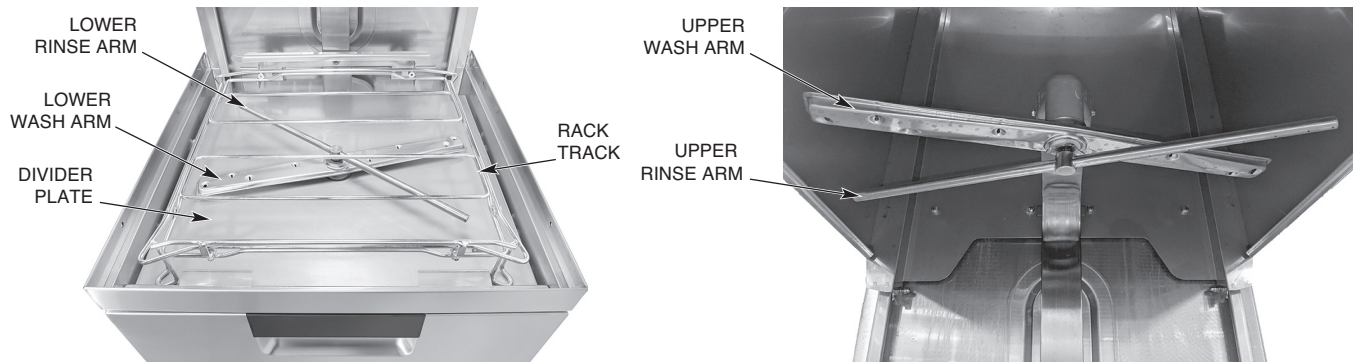
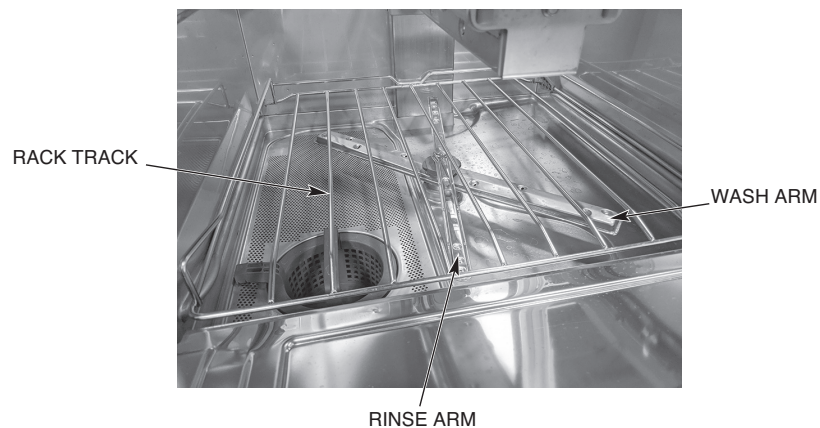

Fig. 17
Fig. 18
4. Remove the upper section rack track, upper and lower wash and rinse arms followed by the divider plate (Fig. 17). Then remove the lower section rack track and wash and rinse arms (Fig. 18). Wash and rinse all removed components thoroughly in a sink with a mild cleanser. Ensure wash and rinse arms are free of obstructions. **NOTE:** Refer to Maintenance section (page 25) for wash and rinse arm removal.